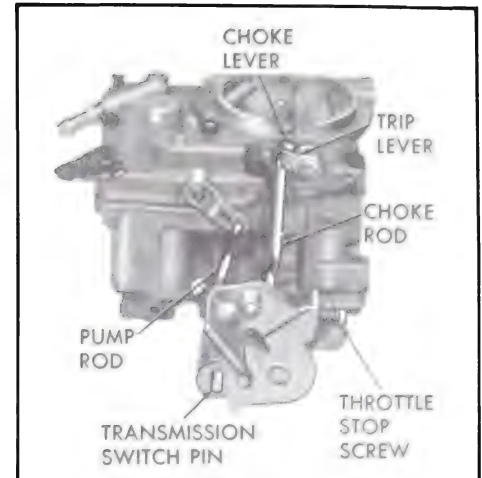

Figure 3-36—Choke Linkage
15. Install choke rod into choke lever and fast idle cam. Install fast idle cam screw and tighten securely. See Figure 3-36 for proper installation.